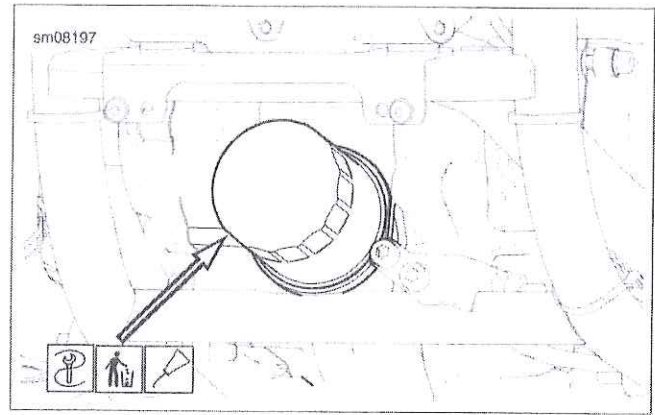

Figure 2-3. Engine Oil Filter
3. See Figure 2-3. Remove and discard oil filter.